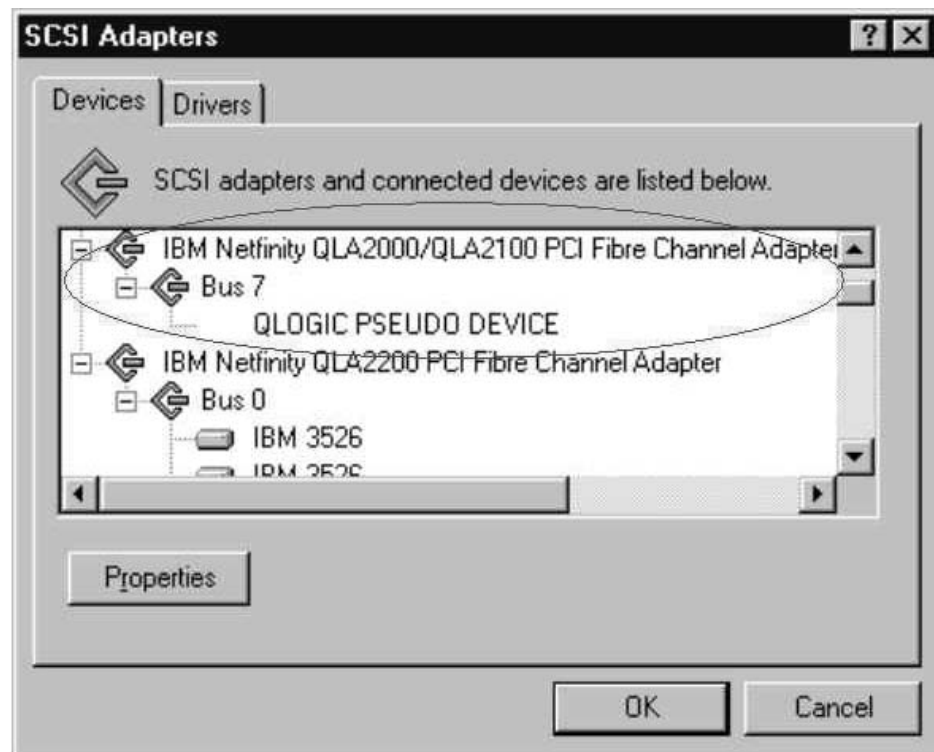

Figure 39. SCSI adapters
1. Windows NT displays the blue screen and reports the first two lines (version, number of processors, and amount of memory). Windows NT takes a long time to start. The SCSI Adapters applet in the Control Panel opens the SCSI Adapters window shown in Figure 39 for the 2100.